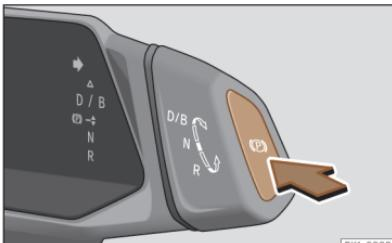

Fig. 141 On the gear selector: electronic parking brake button.
- While the vehicle is stationary, press the button **Fig. 141**.
- (P) When the electronic parking brake is applied, the control lamp on the instrument cluster next to the gear selector lights up red.
- Press the button **Fig. 141**. The electronic parking brake is activated.